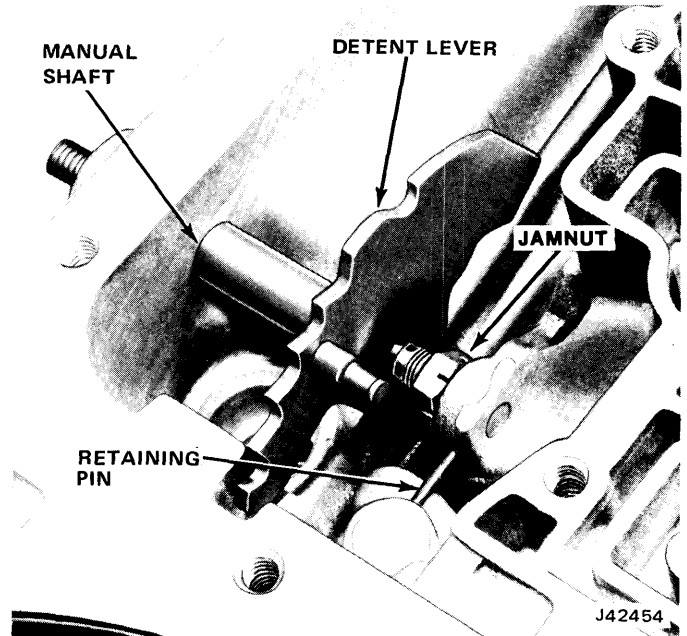
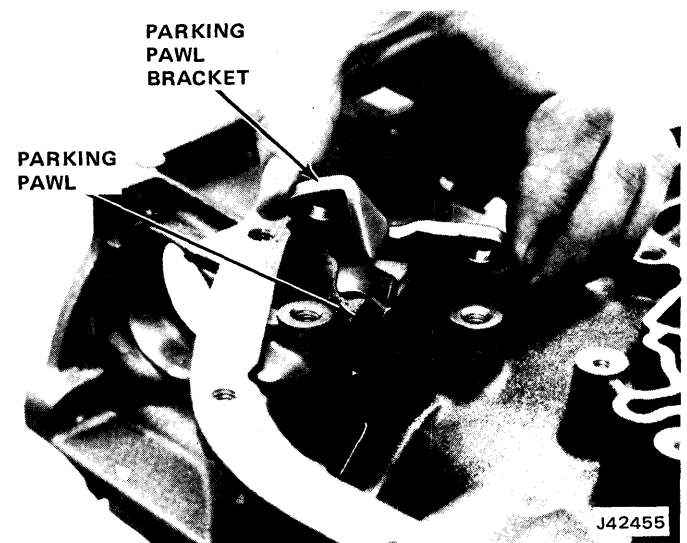

Fig. 7-25 Manual Shaft and Retaining Pin
Fig. 7-26 Removing Parking Pawl Bracket
- (1) Unthread jamnut retaining detent lever on manual shaft.
- (2) Remove manual shaft retaining pin (fig. 7-25).
- (3) Remove jamnut, manual shaft, and seal.
- (4) Remove manual shaft-to-case seal using screwdriver.
- (5) Remove parking actuator rod and detent lever assembly.
- (6) Remove parking bracket attaching screw and remove bracket (fig. 7-26).